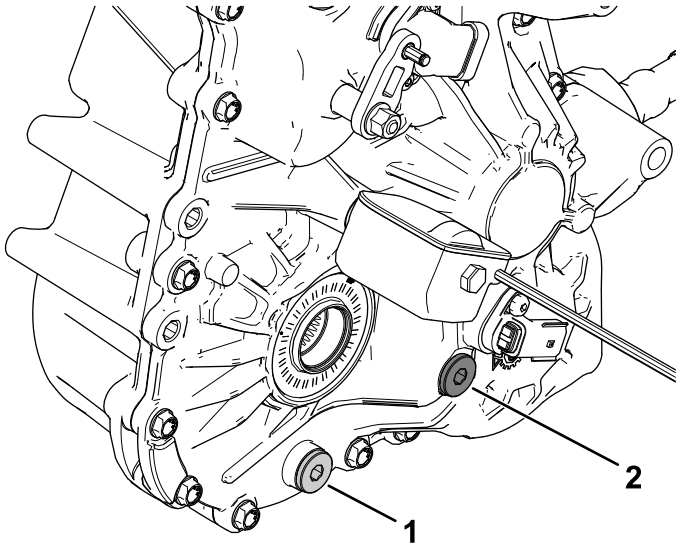

Figure 79
4. Remove the fill plug on the transaxle (Figure 79).
5. If the fluid level is low, remove the fill plug and add the specified fluid until it runs out of the hole (Figure 79).
1. Align a drain pan under the drain plug (Figure 79).
2. Remove the fill plug (Figure 79).
3. Remove the drain plug, and allow the fluid to drain completely (Figure 79).